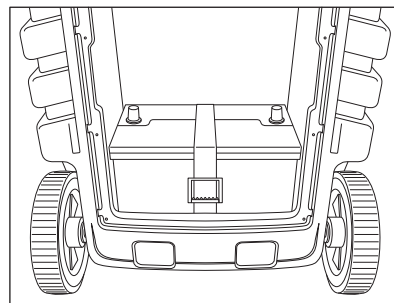

Fig. 2
- Remove the lower back panel. (Refer to Fig. 2)
- Reinstall the back panel. (Fig. 2)